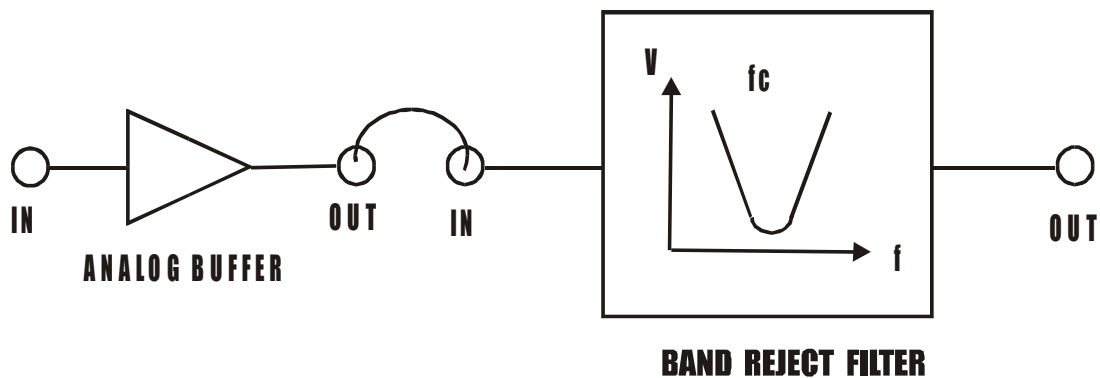

FIG.3.7 BAND REJECT FILTER
- Ref to the fig. 3.7 & carry out the following connections.